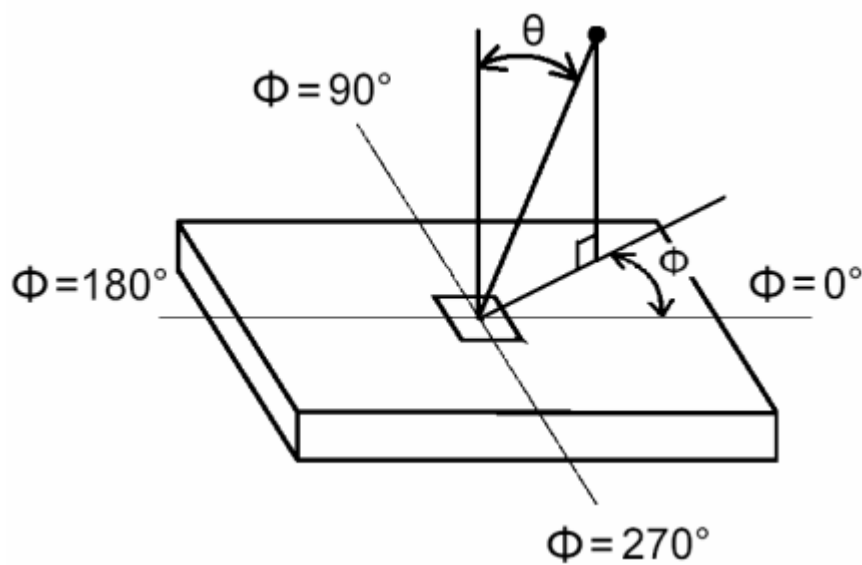

**FIG. 2 Luminance measurement positions**
1. Contrast ratio will be measured in the center of panel (point 5 in Figure 2), Contrast Ratio (CR) is defined mathematically as:
$$\delta_{\text{WHITE}}(9\text{pts}) = \frac{\text{Maximum}(L_{\text{on}1}, L_{\text{on}2}, \dots, L_{\text{on}9})}{\text{Minimum}(L_{\text{on}1}, L_{\text{on}2}, \dots, L_{\text{on}9})} \quad \text{Position of each 9 pts for measuring is shown in FIG 2.}$$